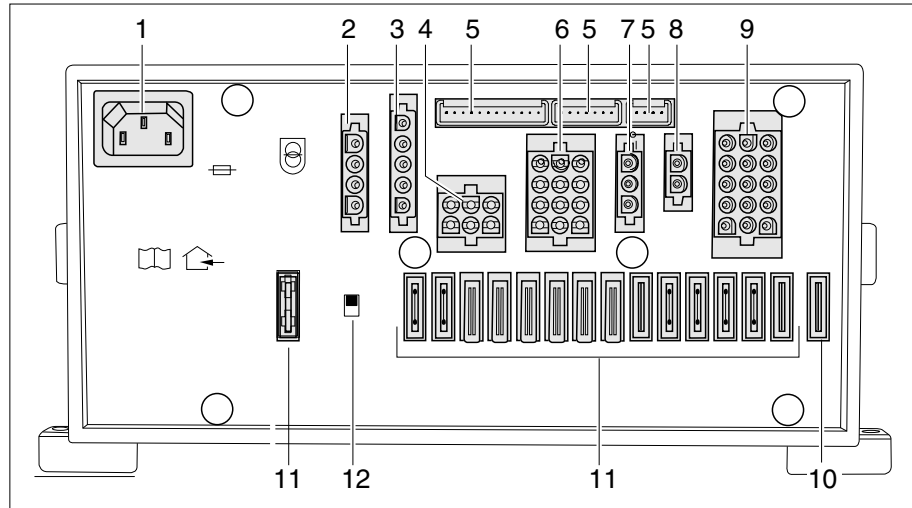

Fig. 254 Transformer/rectifier (EBL 111)
- ▷ The battery cut-off switch (Fig. 254,12) disconnects all the appliances that are connected to the transformer/rectifier from the 12 V network.